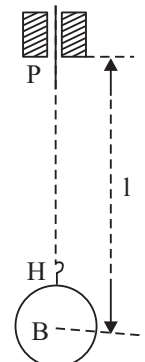

Fig. 4.2
A simple pendulum is a small heavy 'bob' B hanging by a light and inextensible string S (fig 4.1). In '*equilibrium position*' string is vertical. While oscillating, the '*amplitude of oscillation*' is the maximum angle that thread makes with the vertical (or sometimes the maximum horizontal displacement of the bob). Its *time period* T , i.e., time taken for one oscillation depends on its *length* i.e. distance from point of suspension to C.G. of bob B (fig. 4.2):
- (iii) Make a length of about 125 cm of this pendulum for the first set of readings. Measure the length from foot of the hook H to point of suspension P (fig 4.2). Add to it half the diameter of the, bob to obtain l , the length of the pendulum. Length PH must be measured **with bob suspended**, as the thread may have some elastic extension by the weight of the bob.